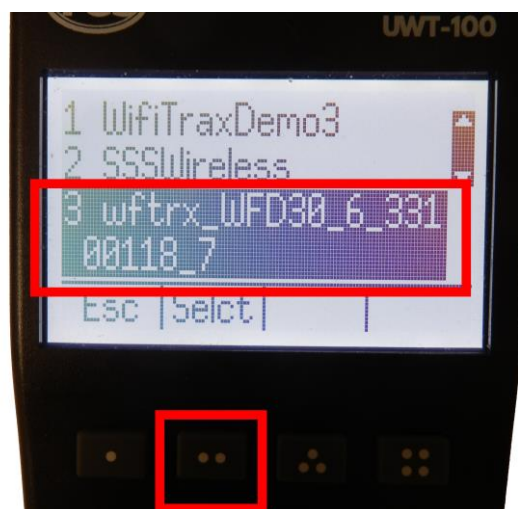

Figure 24 Select the Wi-Fi Network of the WFD-30
(5) In the Found Networks list, identify the one which has the form wftrx_WFD30_6_XXXXXXXX_7, where XXXXXXXX is the serial number of your unit as Figure 24. Select that Network, using the Selct [.] key.